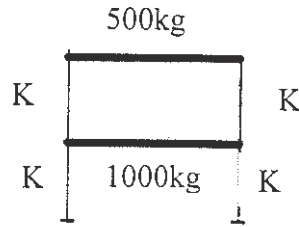

Figure 4.1
- Q4)** For the two degree freedom system shown in Figure 4.1, obtain natural frequencies and amplitude ratios. Assume  $K = 20 \text{ kN/m}$ . [16]